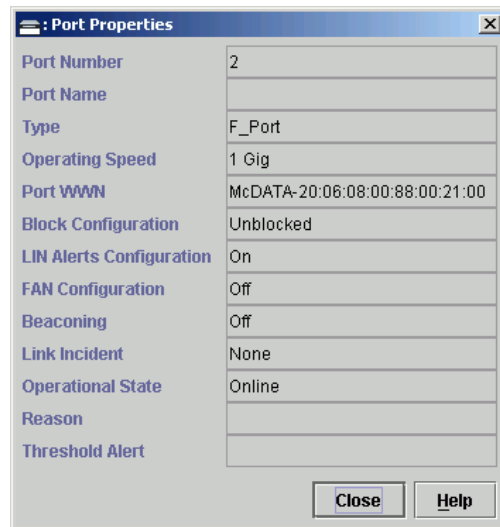

Figure 3-11 Port Properties Dialog Box
- a. Double-click a port to open the *Port Properties* dialog box (Figure 3-11 on page 3-23).